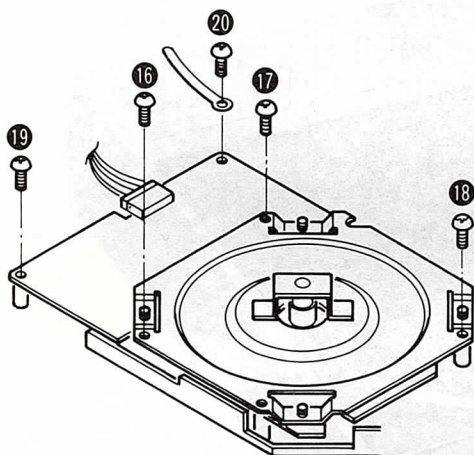

Fig. 9
2. Remove the 3 stator frame setscrews (Fig. 9: 16 ~ 18) and the 2 drive circuit board setscrews (Fig. 9: 19, 20).